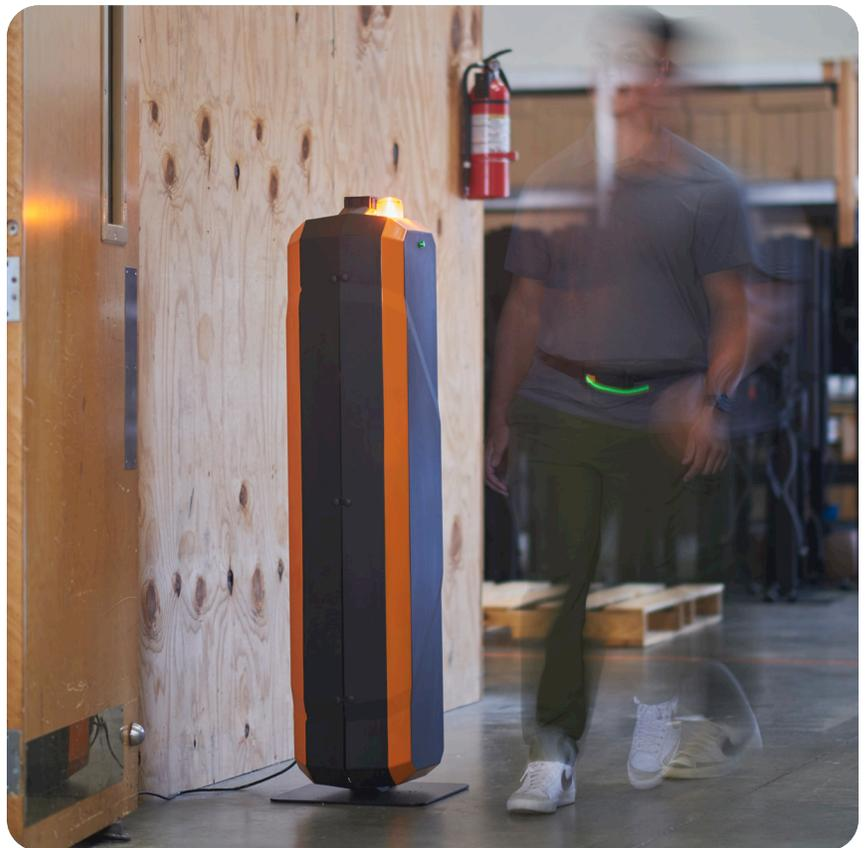

Figure 2. Modjoul Watchdog
- In addition, the system's Watchdog (**Figure 2**) is equipped with a visual and audio alarm system that provides real-time feedback if an asset approaches a Watchdog-equipped exit. The result is a complete RFID platform for asset management.